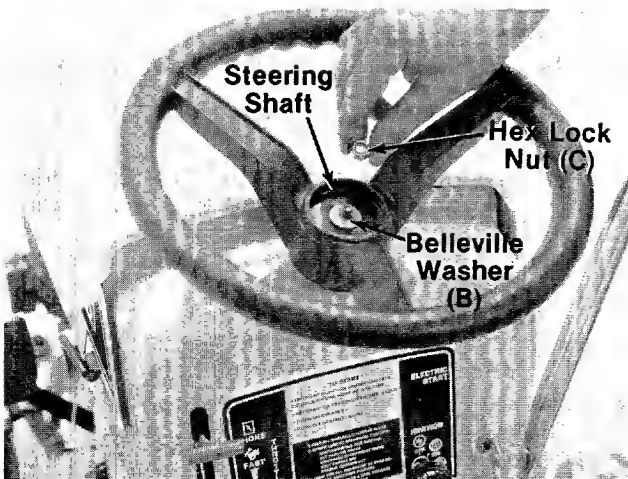

FIGURE 3.
2. Place steering wheel (P) over steering shaft.
3. Secure with belleville washer (B) and hex lock nut (C). See figure 3.